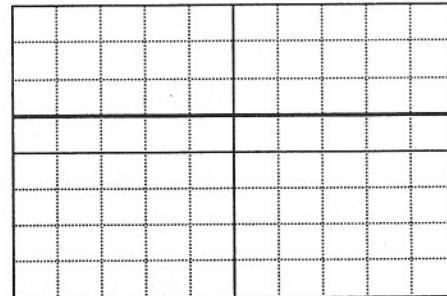

Figure 2
- f). Adjust VR208 until get one sweep. (See fig 2)